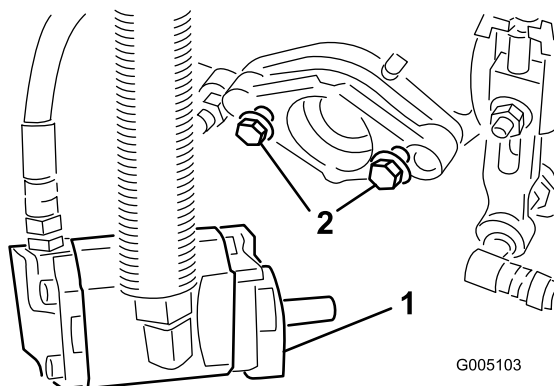

Figure 11
Leave approximately 1/2 inch (13 mm) of threads exposed on each mounting bolt (Figure 11).
11. **Tighten the mounting bolts** (Figure 11).